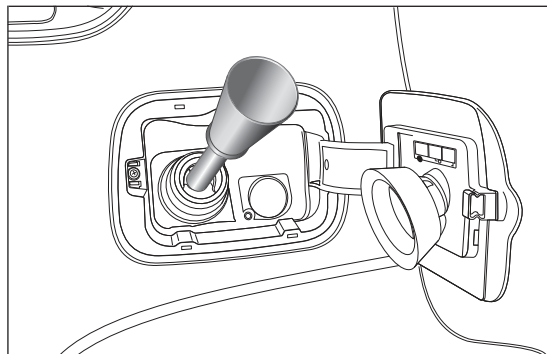

fig. 85
- ☐ insert adapter B in the filler as shown in fig. 85 and refuel;